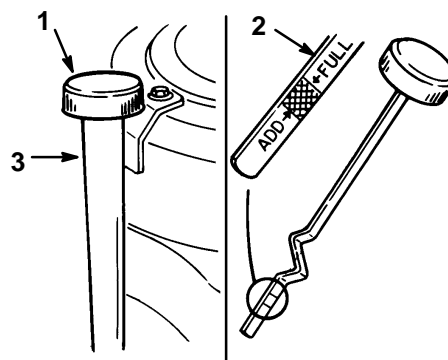

Figure 17
3. Clean around the oil dipstick (Fig. 17) so dirt cannot fall into the filler hole and damage the engine.
4. Unscrew the oil dipstick and wipe the metal end clean (Fig. 17).
5. Slide the oil dipstick fully onto the filler tube, do not thread onto tube (Fig. 17). Pull the dipstick out and look at the metal end. If oil level is low, slowly pour only enough oil into the filler tube to raise the level to the “FULL” mark.
7. Slowly pour approximately 80% of the specified amount of oil into the filler tube (Fig. 17). Now check the oil level; refer to Checking Oil Level, page 19. Slowly add additional oil to bring to "FULL" mark on dipstick.